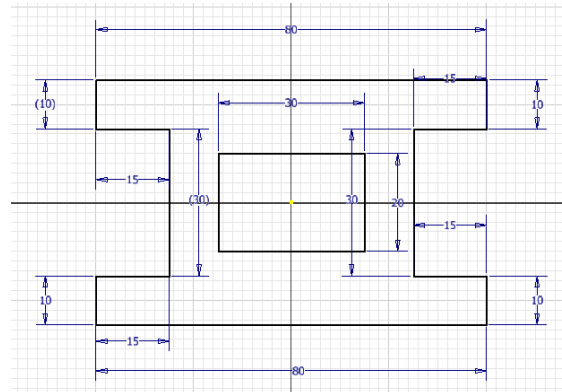

Figure 2-69 Completed sketch for Tutorial 2
- Draw the inner closed loop by using the Dynamic Input method, refer to Figure 2-69.
20. Next, right-click on the graphics window; a Marking Menu is displayed. Choose **Cancel (ESC)** from the Marking Menu; the sketch is created, as shown in Figure 2-69.